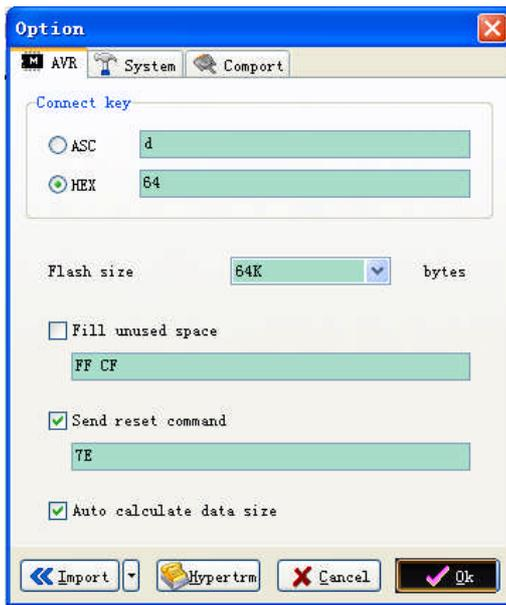

Fig. 4
- 4) Click on “Options” at main menu. Change settings on tab “AVR” to those shown in Fig. 4. Connect Key has to be “HEX 64”. Flash size should be 64K.